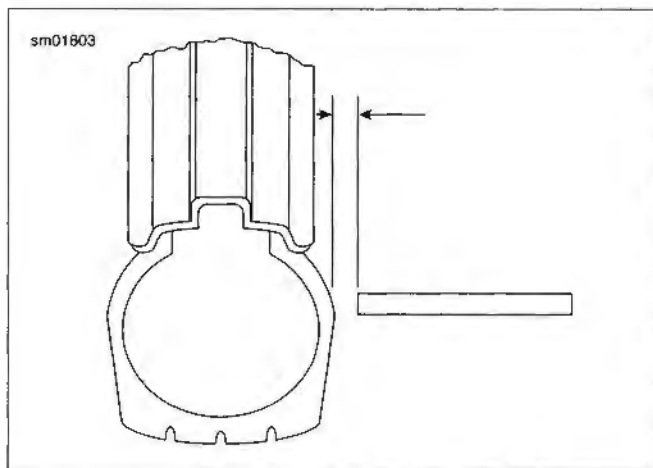

Figure 2-59. Checking Tire Lateral Runout
2. See Figure 2-59. Turn the wheel on the axle and measure tire lateral runout from a fixed point to a smooth area on the tire sidewall. Avoid measuring on raised letters or vents.